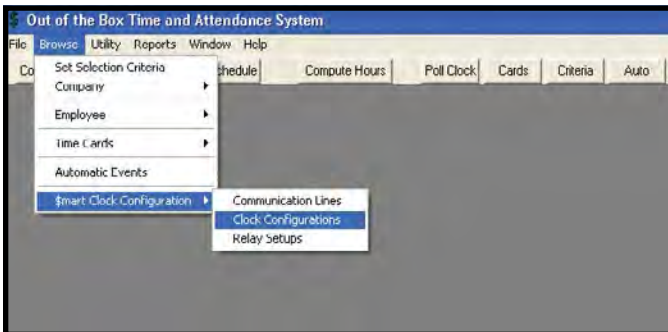

Figure 18. Out-of-the-Box™, Clock Configurations
5. Click “Browse” > “Smart Clock Configuration” > “Clock Configurations” (see Figure 18).